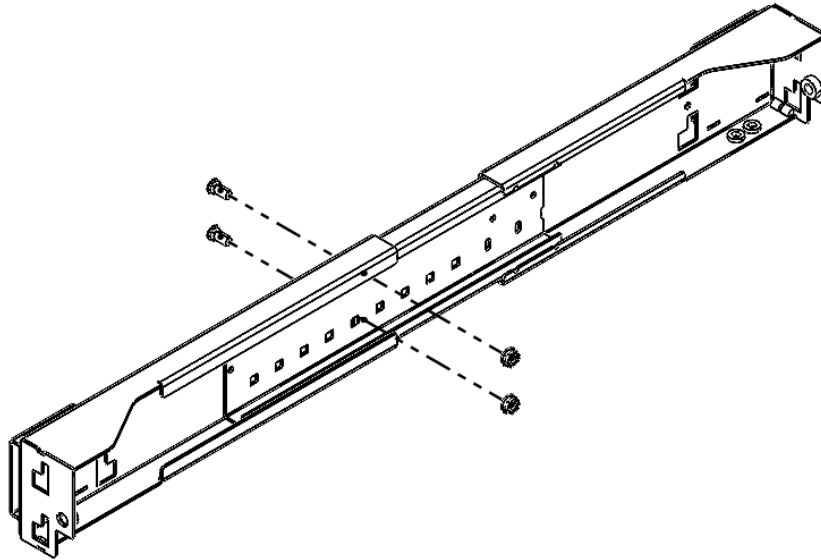

Figure 3
3) Tighten the screws as shown in Figure 3. Torque=17.3N·m.